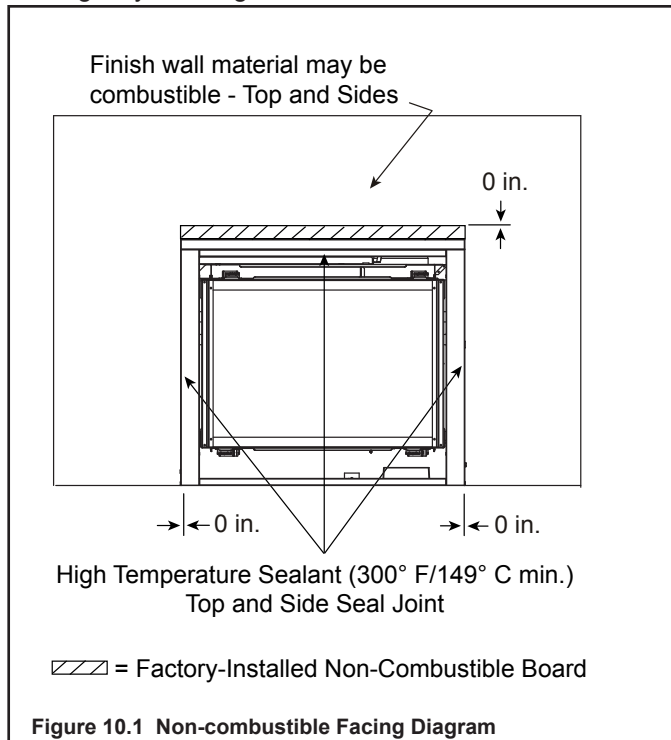
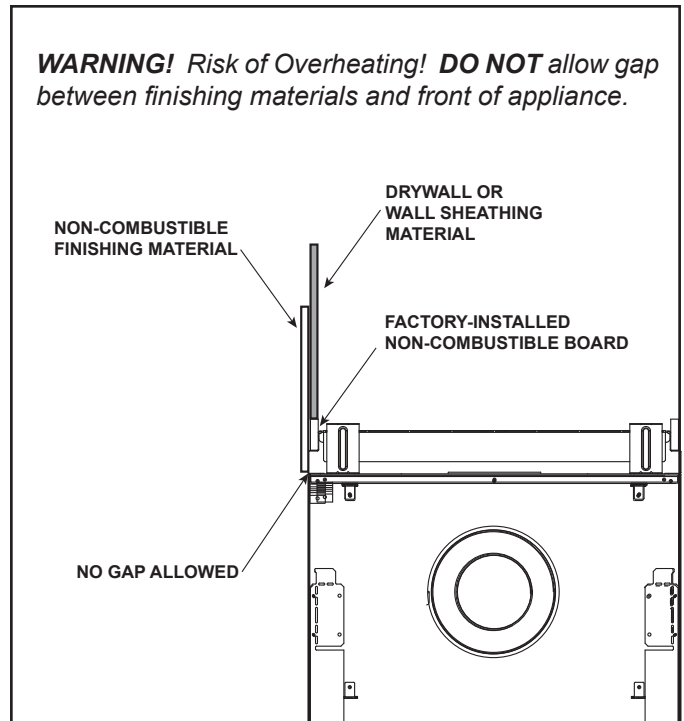

Figure 10.1 Non-combustible Facing Diagram
Figure 10.2 Finishing Material Installed
- Seal gaps between the finished wall and appliance top and sides using a 300 °F minimum sealant. Refer to Figure 10.1 and Figure 10.2.